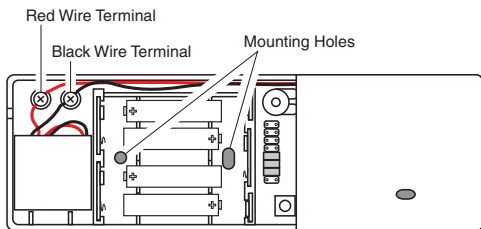

Figure 5
- Route microphone wires through small slot in chime extender case. *Note:* If necessary, remove microphone wires from wire terminals using a small phillips screwdriver. After routing wires as needed, reattach color-coded wires to matching wire terminals (see Figure 5).
- Hold the chime extender in the desired location, and mark the two mounting holes (see Figure 5).